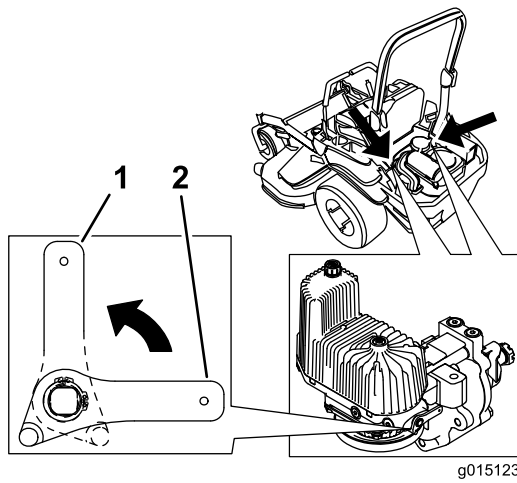

Figure 34
3. Rotate the release-valve levers vertically to push the machine (Figure 34).
5. Rotate the release-valve levers horizontally to run the machine (Figure 34).